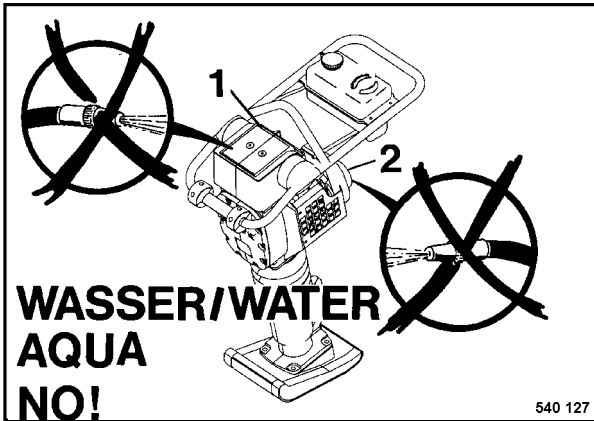

Fig. 1
- Do not guide the water jet directly into the air filter 1 (Fig. 1) and into the starter/air intake (2).